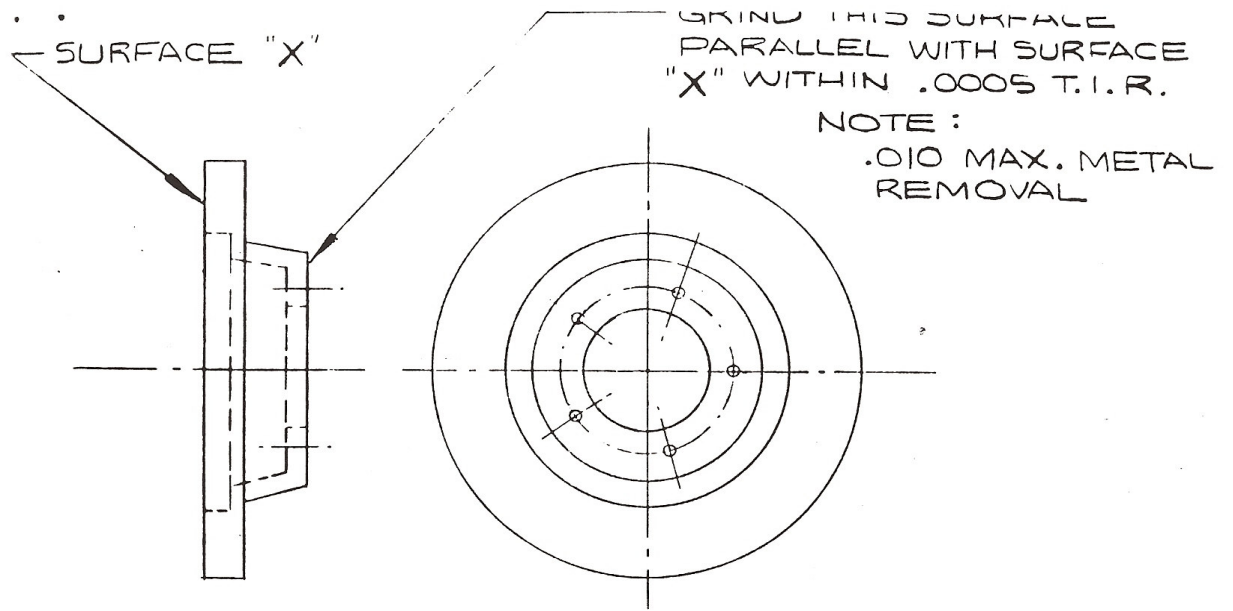

FIGURE 1
2. Qualify rotor mounting face per *Figure 1*.